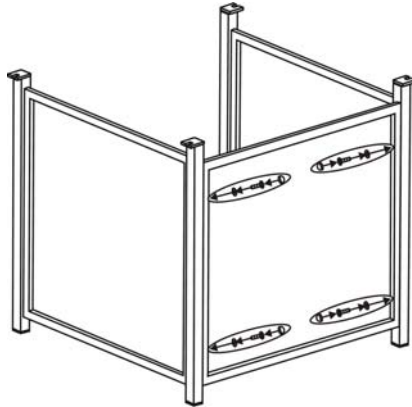

Figure 2
2. Attach the back panel to side panels by using four 1/4"x40 mm bolts and washers as shown in Figure 2. Guide bolts through holes in back panel, into pre-drilled holes in the side panels. **Hand tighten only.**
Step 4: Critical Step: The "U" metal plates must be installed in the proper location. Read this step and carefully examine. Insert the "U" metal plate, so that the "U" bar and rocker plate are between both sides of the "U" metal plate. Make sure that the holes in the "U" metal plate are completely aligned with the holes in the "U" bar as shown in *Figure 1*. Guide the bolts through the holes on the top side of the "U" metal plate, through the holes in the "U" bar portion of the chair, through the holes in the rocker plate and then, most importantly, through the holes in the bottom portion of the "U" metal plate. It is very important that the holes in the bottom portion of the "U" metal plate be placed directly beneath the holes in the rocker plate. Add a spring washer and a nut to each bolt as shown in *Figure 2*. **Hand tighten nuts 3-4 revolutions only.** Repeat the same procedure on the other side.